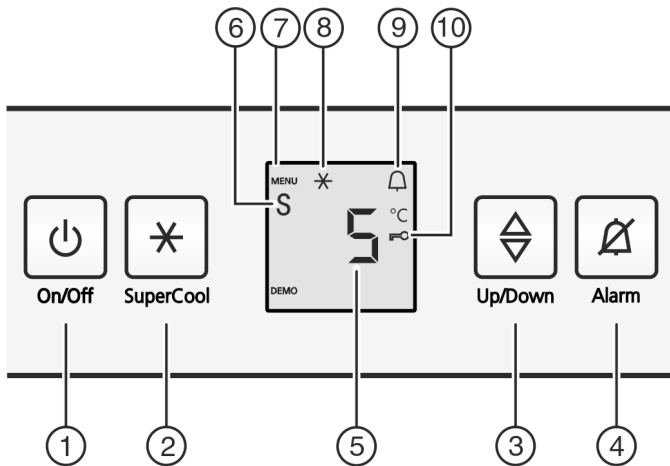

Fig. 2
- Press the On/Off button Fig. 2 (1).
- Activate setting mode: Press the SuperCool button Fig. 2 (2) for around 5 seconds.
- ▷ The menu symbol Fig. 2 (7) shines.
- Use the Settings button Fig. 2 (3) to select **c**.
- Briefly press the SuperCool button Fig. 2 (2) to confirm.
- to activate the child lock, briefly press the SuperCool button Fig. 2 (2).
- ▷ The child lock symbol Fig. 2 (10) shines. **c** flashes in the display.
- to deactivate the child lock, briefly press the SuperCool button Fig. 2 (2).
- ▷ The child lock symbol Fig. 2 (10) goes out. **c** flashes in the display.
- To deactivate the set-up mode: press On/Off button Fig. 2 (1).
- Press alarm button Fig. 2 (4).
- ▶ Activate setting mode: Press the SuperCool button *Fig. 2 (2)* for around 5 seconds.
- ▷ The Menu symbol *Fig. 2 (7)* lights up.
- ▶ To call up the Sabbath Mode function: Briefly press the SuperCool button *Fig. 2 (2)*.
- ▶ To switch on Sabbath Mode, briefly press the SuperCool button *Fig. 2 (2)*.
- ▶ To switch off Sabbath Mode, briefly press the SuperCool button *Fig. 2 (2)*.
- ▶ Deactivate setting mode: Press the On/Off button *Fig. 2 (1)*.
- ▷ The temperature display shows the Sabbath Mode symbol *Fig. 2 (6)* as long as Sabbath Mode is on.